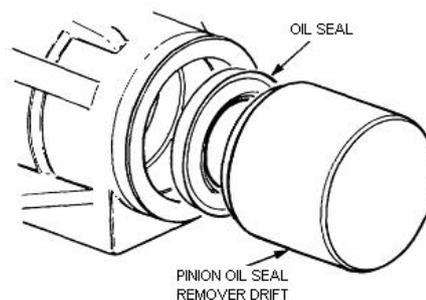

Figure 106 Pinion Oil Seal Installation
- b. Using pinion oil seal replacer drift (Table 3, Serial 5) (Figure 106), insert the seal with the seal lip towards the pinion.